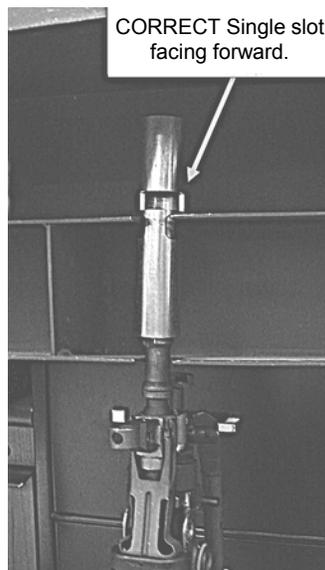

Figure 4. Storage Rack Adapter Correctly Positioned in Rack.
3. Position storage rack adapter so that the single slot is facing outward (Figure 4).
4. Position storage rack adapter on the barrel so that the pair of grooves slides between the two sides of the top slot of the rack (Figure 4).
3. Hand-tighten nut (Figure 4, Item 2) against the tube (Figure 4, Item 1).